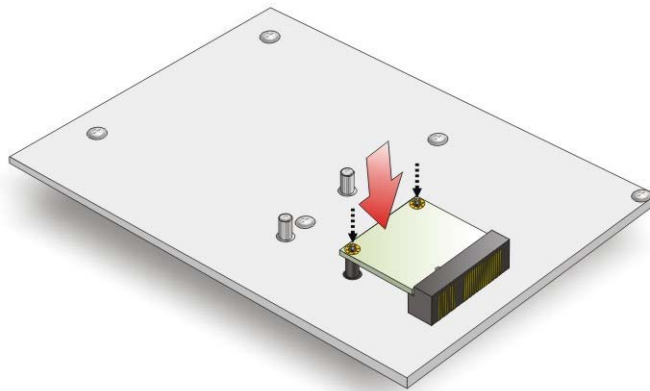

Figure 4-21: Secure the Half-size PCIe Mini Card
Step 4: Push down until the card clips into place. Push the other end of the card down until it clips into place on the plastic shafts (Figure 4-21).